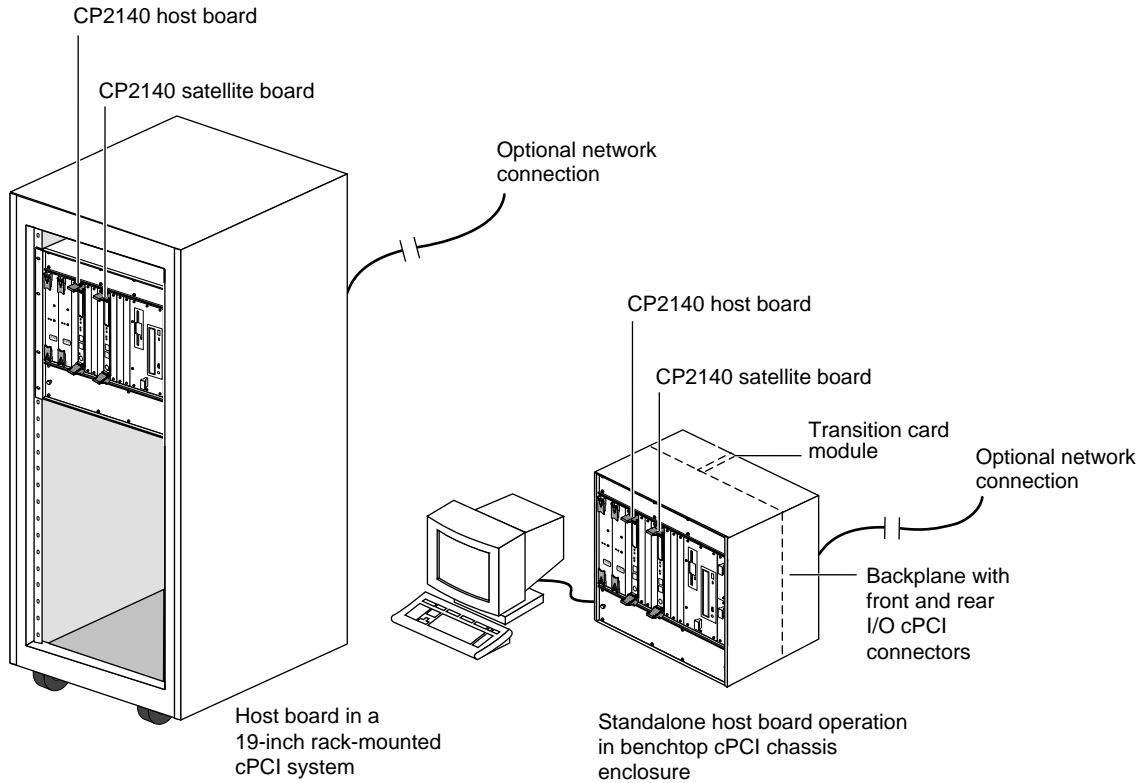

FIGURE 2-1 Examples of Netra CP2140 Board Hardware Configurations
The Netra CP2140 board can be mounted in various enclosures. It can be deployed in various electrical configurations to suit each end-user's requirements. For example, the host board can be used with a transition card and configured to boot from a network as a diskless client. Alternatively, industry-standard PMC and PIM hardware from independent hardware vendors (IHVs) can provide local disk I/O which can optionally be used as a boot path. The basic installation procedure is independent of the type of enclosure used: a floor-mounting rack, a bench-top cabinet, or some other configuration. The memory is user-configurable. See FIGURE 2-1 for Netra CP2140 board hardware configuration examples.
FIGURE 2-1 shows the board hardware configuration options. For more information you see the product website at:
- CompactPCI enclosure to accommodate 6U boards, comprising: chassis, backplane, power supply. FIGURE 2-1 shows a typical configuration. See Chapter 2 to ensure that your enclosure meets the power supply and cooling requirement specifications.